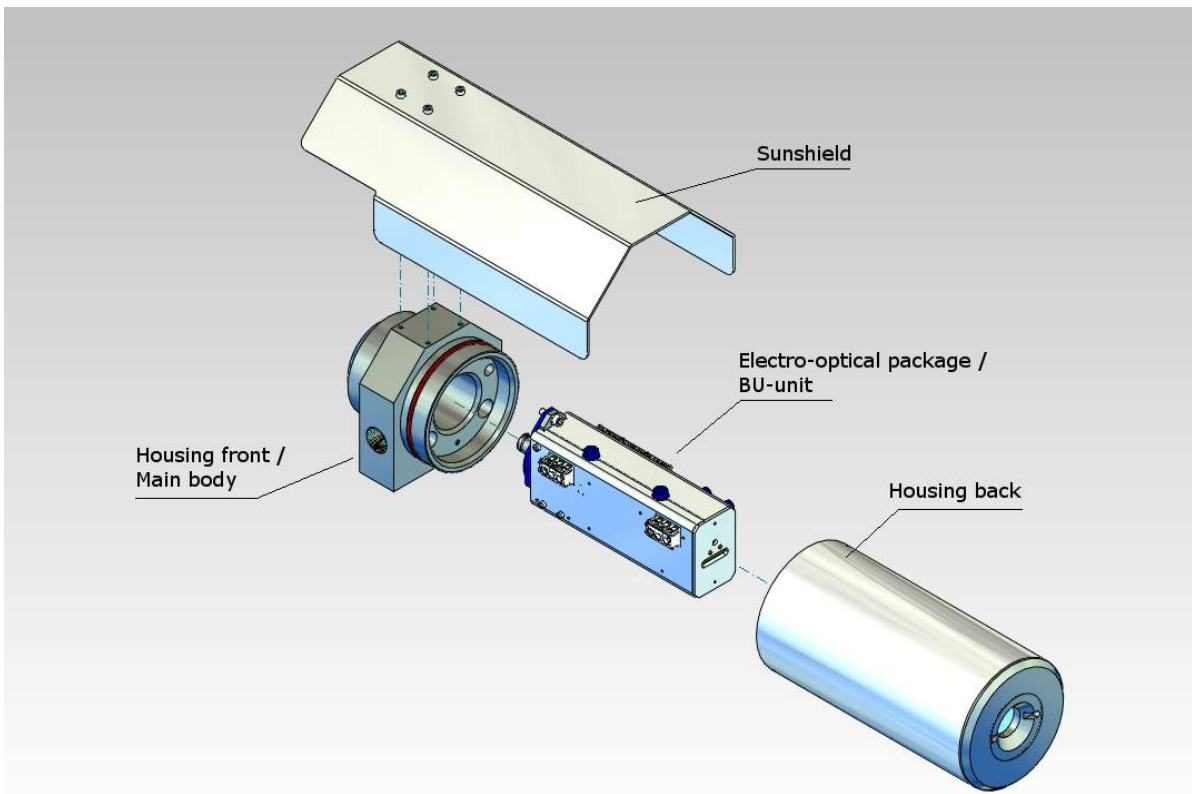

Figure 1: QUASAR 2 M8100-EXP Housing and Electro-Optical Package
The heart of the LumaSense QUASAR 2 M8100-EXP Flare Monitoring System is the non-contact infrared Electro-Optical package, which can be removed from the explosion proof housing for repairs or replacement, while leaving all wiring and alignment of the system intact (see Figure 1).
- An Electro-Optical package that is easy to remove from the explosion-proof housing, minimizing downtime and increasing reliability (see Figure 1).